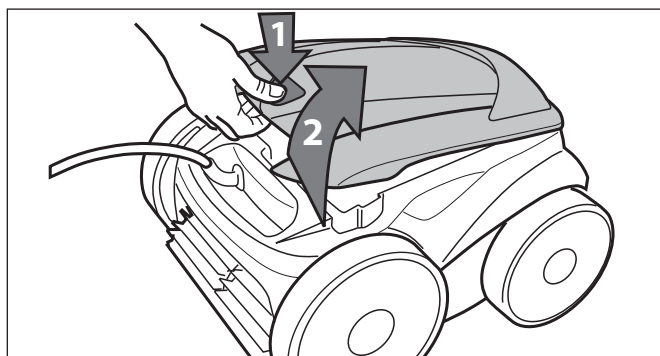

Figure 27. Lift Cleaner Cover
5. Push the cover lock (1) and lift the cover (2) until it is secured in the vertical position. (Figure 27).